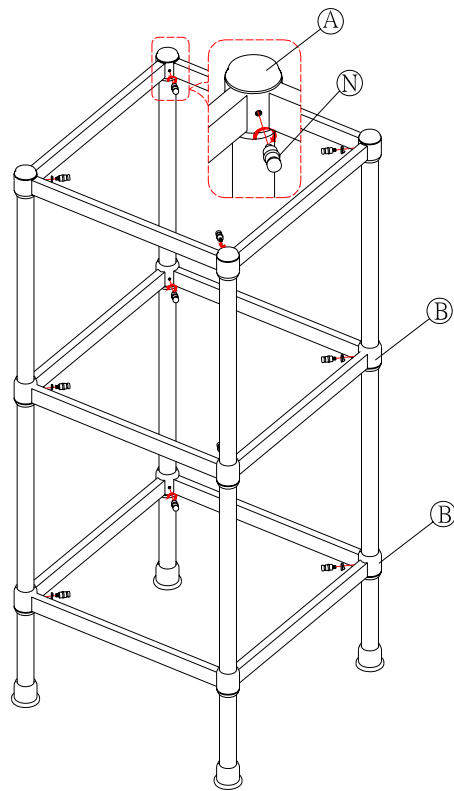

Fig. 4
7. Two people gently grasp the étagère and turn it to the upright position. Insert the shelf pegs (N) into the pre-drilled holes found in the four interior corners of the metal frames (Fig. 4).